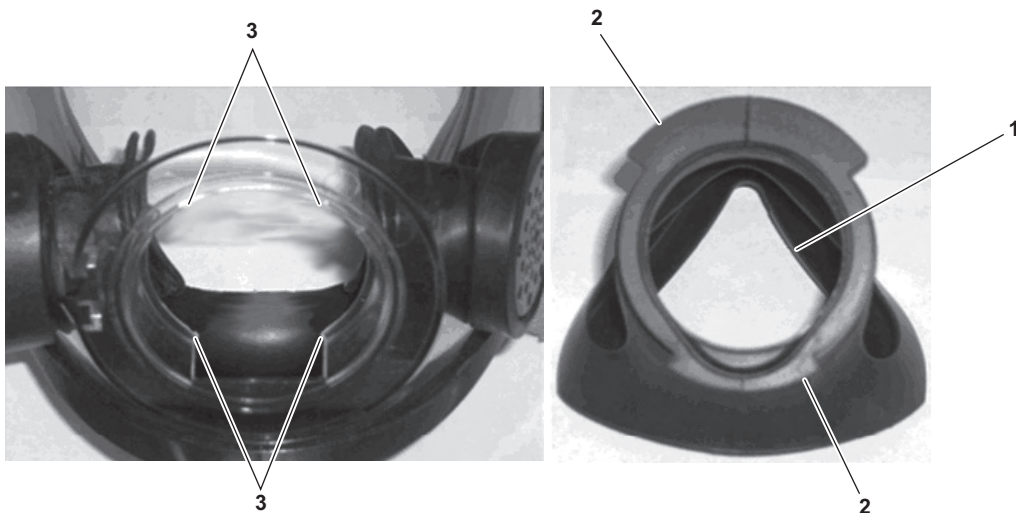

Figure 6-12. Align Tabs with Cutouts
- (3) Insert the nosecup assembly (figure 6-12, item 1) into the facepiece. Fit the tabs (figure 6-12, item 2) of the nosecup assembly into the cutouts (figure 6-12, item 3) of the adaptor port.
- (4) Ensure that the nosecup assembly (figure 6-12, item 1) is fully seated in the adaptor port (figure 6-12, item 3) and that it is not distorted.